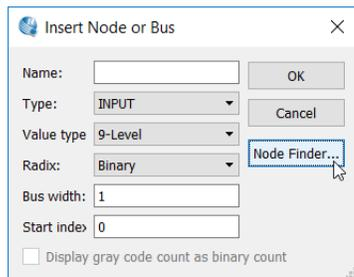

Figure 31. Insert node dialog.
6. Go to **Edit** ➔ **insert** and click insert node or bus. A pop-up dialog box will appear as shown in Figure 31.